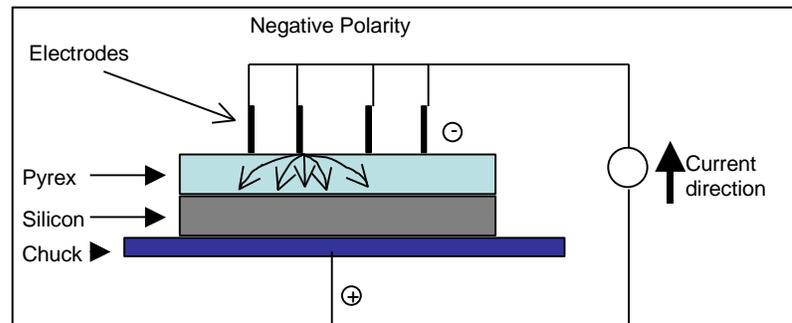
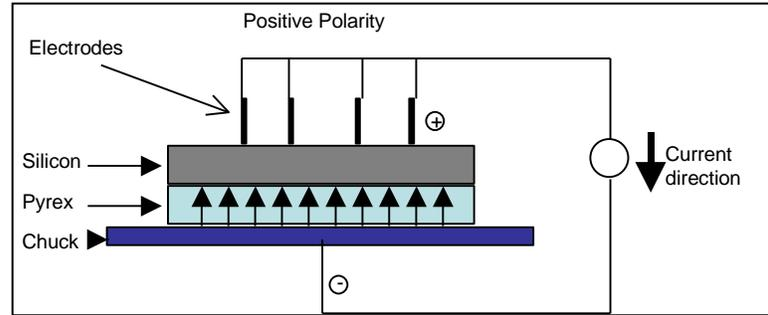

Figure 1
Figure 2
2. If the wafer pair requires alignment (using KSBA6), then the wafer pair will be configured as shown in Figure 1: silicon on bottom, glass on top, and negative polarity.
3. Figure 2 shows the preferred configuration for wafer pairs that do not have the requirement of alignment. This configuration will bond faster than that of Figure 1. The silicon on top, glass on bottom, and positive polarity effectively provides a larger electrode (electrode = silicon wafer). Thus the electric field lines are shortened and the bond happens faster.